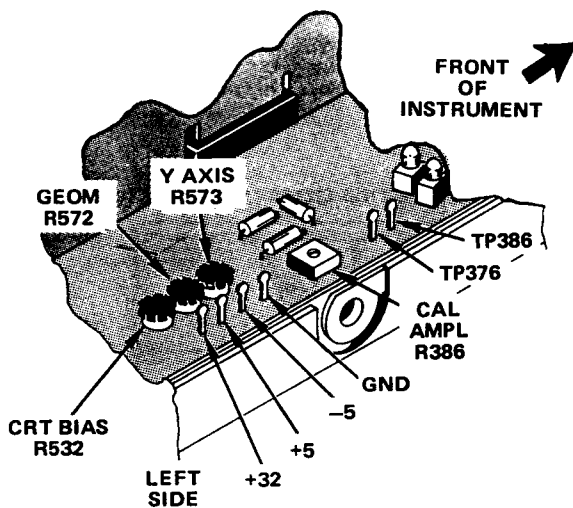
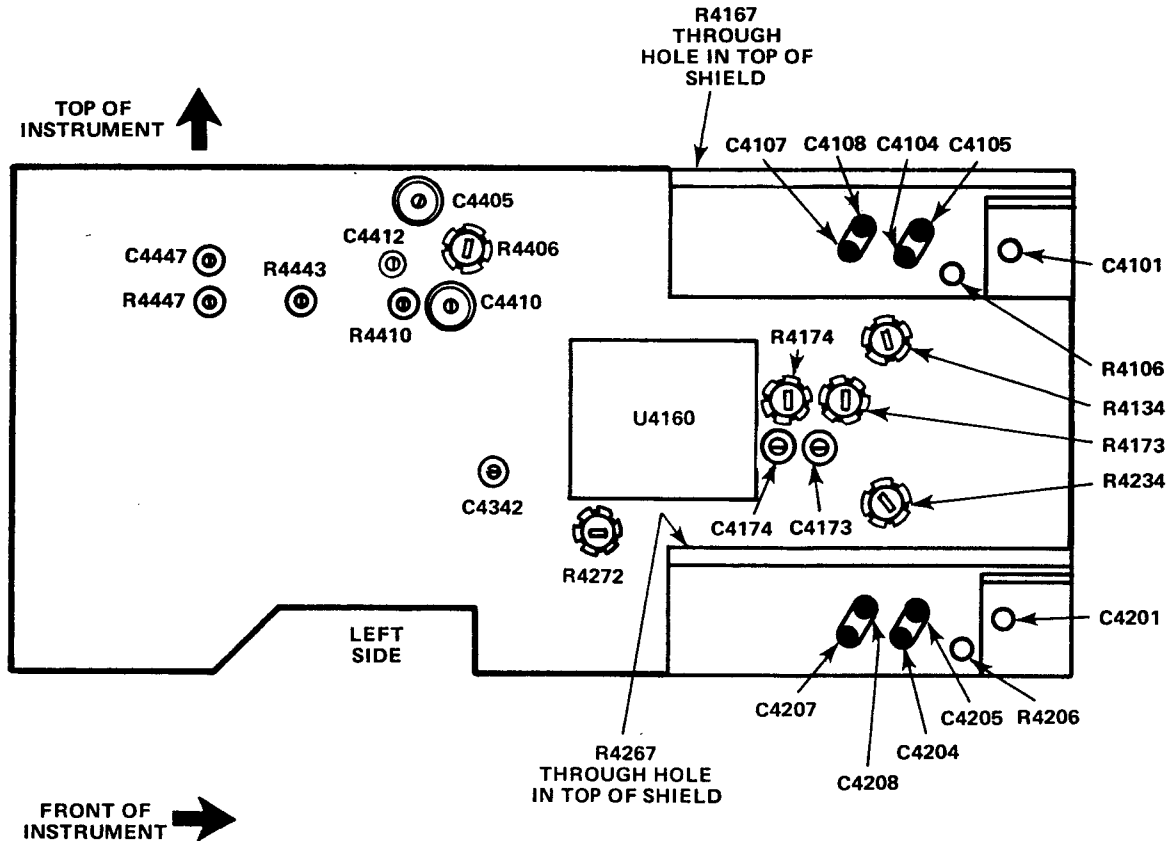

Figure 5-18. Crt and Calibration test point and adjustment locations.
Figure 5-19. Vertical adjustment locations.
(4) Adjust C515 and C516 for the squarest front corner on the displayed pulse.
(5) Disconnect the test oscilloscope.
e. Y-Axis Alignment (Figure 5-18).
(1) Set A AND B TIME/DIV to 1 ms and CH 1 AC-GND-DC to GND.
(2) Vertically position the display to the center horizontal graticule line.
(3) Adjust TRACE ROTATION to align the trace with the center horizontal graticule line.
(4) Set CH 1 AC-GND-DC to DC.
(5) Connect a time mark generator to CH 1 input through a 50 ohm BNC cable and 50 ohm termination. Set the generator for one millisecond time marks.
(6) Set CH 1 VOLTS/DIV for a display of greater than 8 divisions. Adjust vertical POSITION to place baseline of display below the bottom graticule line.
(7) Set A AND B TIME/DIV, its associated VAR control, and horizontal POSITION for exactly one time mark per division.
(8) Adjust Y AXIS, R573 to align the center time mark with the center vertical graticule line.
(9) Continue to the next procedure.
f. Geometry (Figure 5-18).
(1) Readjust TIME/DIV VAR and horizontal POSITION for one time mark per division.
(2) Adjust GEOM, R572 for minimum bowing of time marks.
(3) Reset TIME/DIV VAR fully clockwise in its detent.
(4) Disconnect the time mark generator.
g. Calibrator (Figure 5-18).
(1) Connect a digital voltmeter to the CALIBRATOR output.
(2) Connect a shorting jumper between TP376 and TP386 (a small alligator clip works nicely).
(3) Adjust CAL AMPL, R386 for a 1.00 volt reading.
(4) Remove the shorting jumper from TP376 and TP386.
(5) Disconnect the voltmeter.
h. Dc Balance (Figure 5-19).
(1) Set CH 1 and CH 2 VOLTS/DIV to 5 m (1X window) and A AND B TIME/DIV to .2 ms.
(2) Adjust CH 1 vertical POSITION to vertically center the trace.
(3) Adjust R4134 for no trace shift when switching CH 1 VOLTS/DIV between 5 m and 10 m.
(4) Set VERT MODE to CH 2.
(5) Adjust CH 2 vertical POSITION to vertically center the trace.
(6) Adjust R4234 for no trace shift when switching CH 2 VOLTS/DIV between 5 m and 10 m.